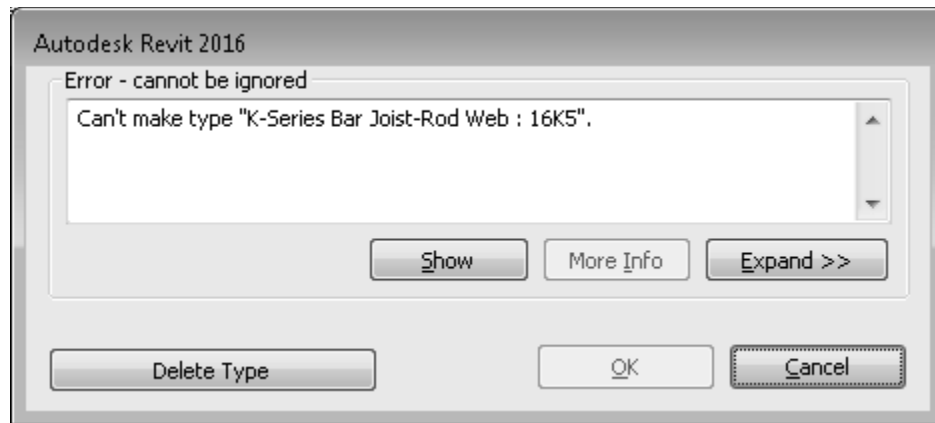

FIGURE 7-4.14 Warning message
- b. Also, for the curved area, click *Delete Type* to continue when prompted (Figure 7-4.14).